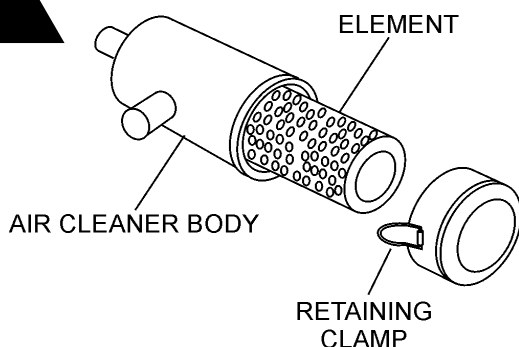

Figure 9. Air Cleaner
1. Release the air cleaner retaining clamps (Figure 9) and remove the air cleaner element.